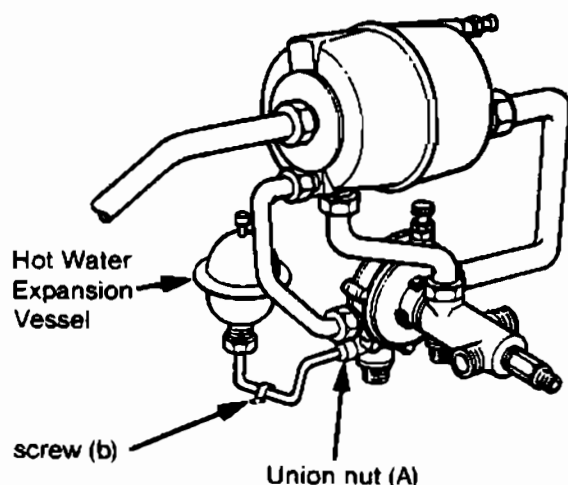

Fig. 42
Refer to fig 42
- 8.18.3** Slacken screw (b) (fig 42) and disengage bracket from pipe (do not remove screw or bracket).